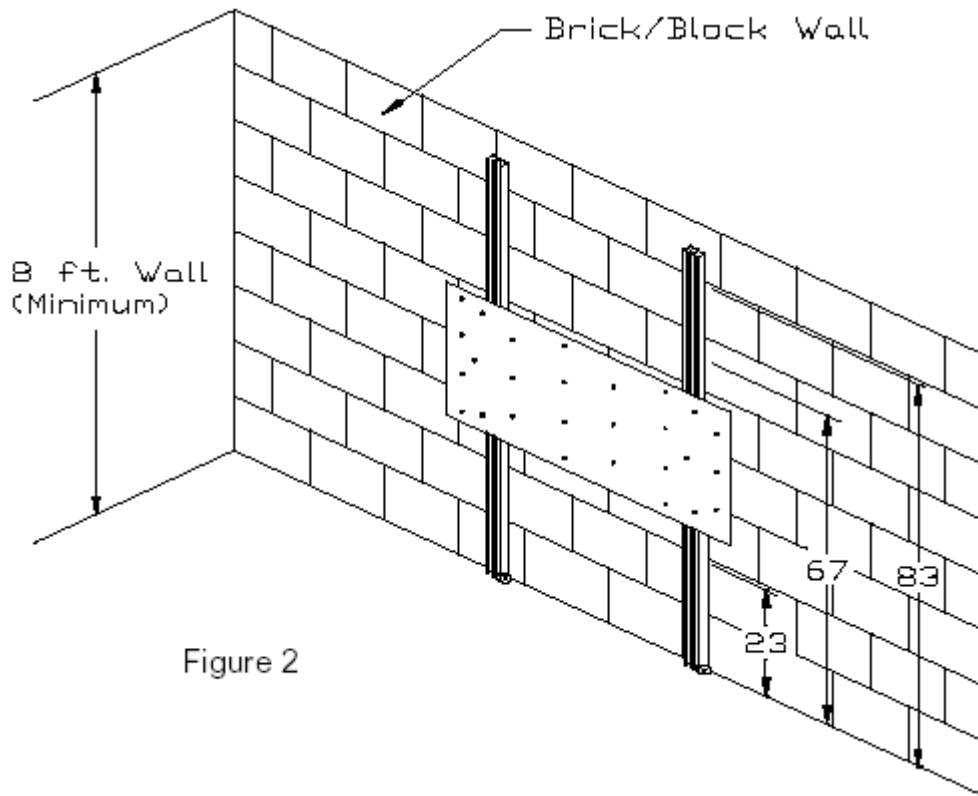

Figure 2
Attaching the uprights to the wall (Figure 2)
1. Set the uprights/centre board assembly against the wall in the desired location with the channels positioned against the block or brick wall. When set upright, the two inside pieces of channel will slide down and rest on the floor, while the two outside pieces of channel will rest on the wheels (see figure 2).